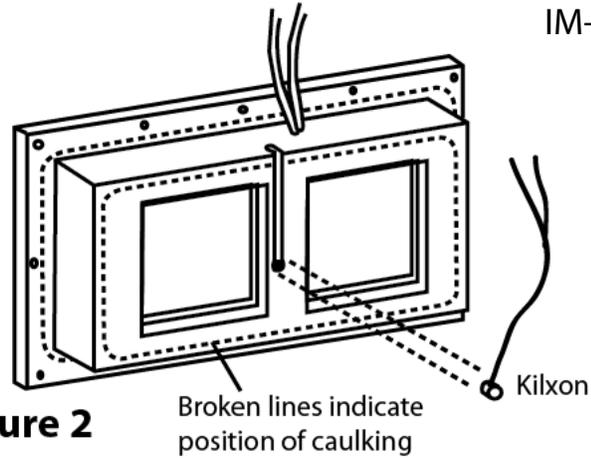

Figure 2
4. On the interior plastic frame (recognized by Klixon switch) place a bead of caulking at the two locations indicated in Figure 2.